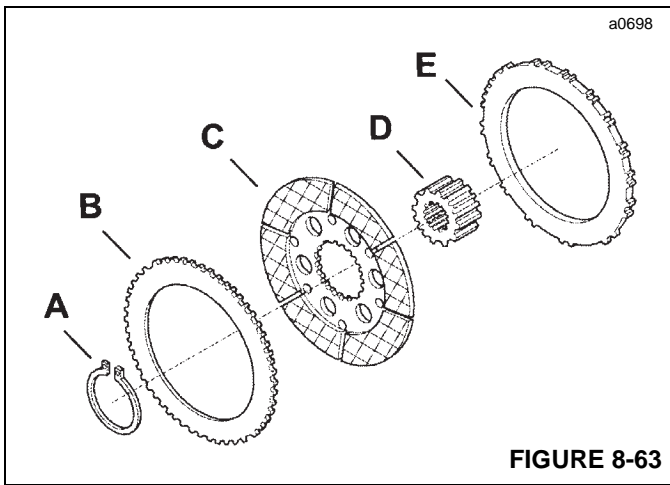

FIGURE 8-63
6. Remove brake counter disc (B, Figure 8-63). Remove retaining ring (A). Remove brake disc (C). Remove brake splined sleeve (D). Remove brake counter disc (E).